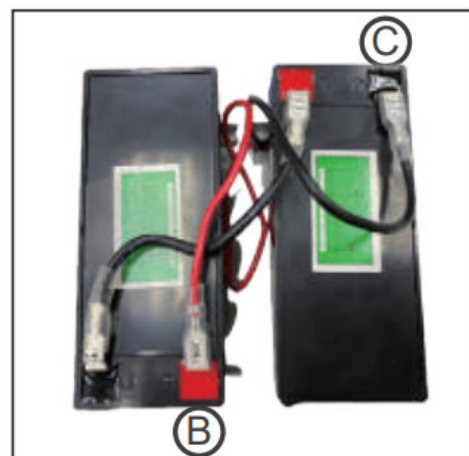

Fig.6
Step 6: Then connect wires B and C, please note that the wire B is connected to the positive (+) pole and the wire C is connected to the negative (-) pole. (Fig.6)